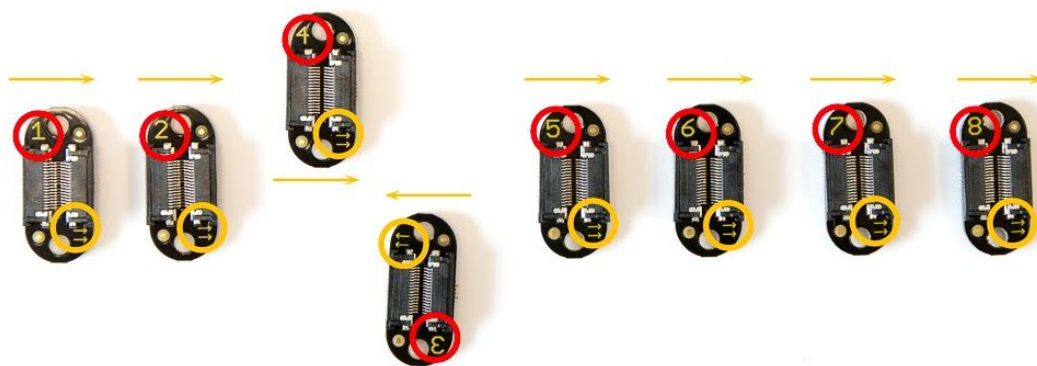

Figure 6. Incorrect sensor order and direction
**TeraRanger Multiflex will not stream distance data if any of the sensor units are connected in the wrong order or direction. See example in Figure 6.**